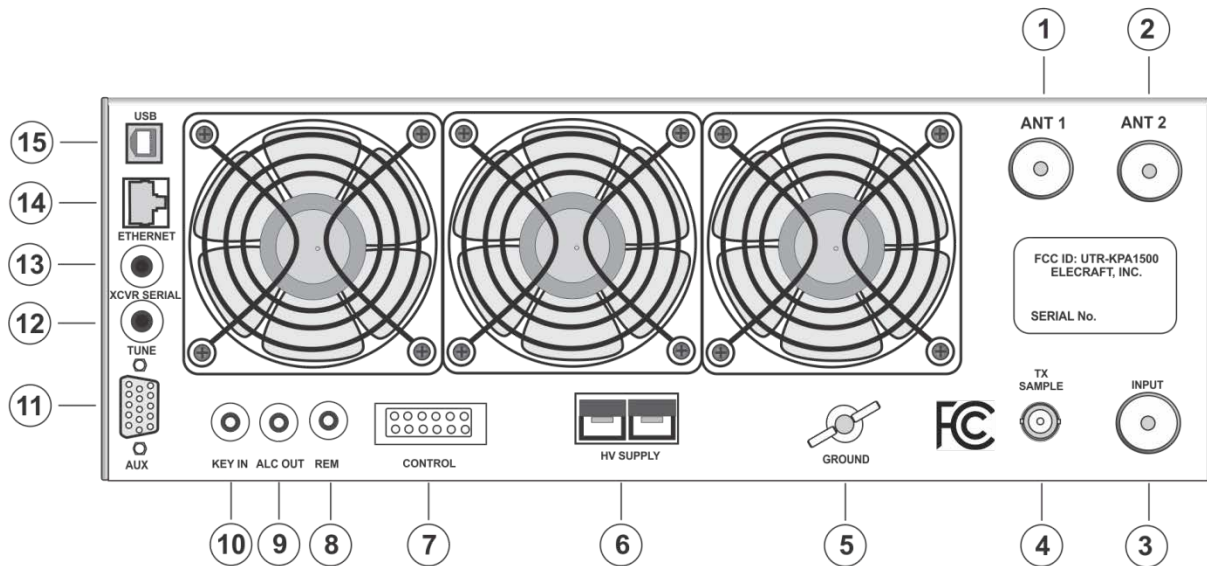
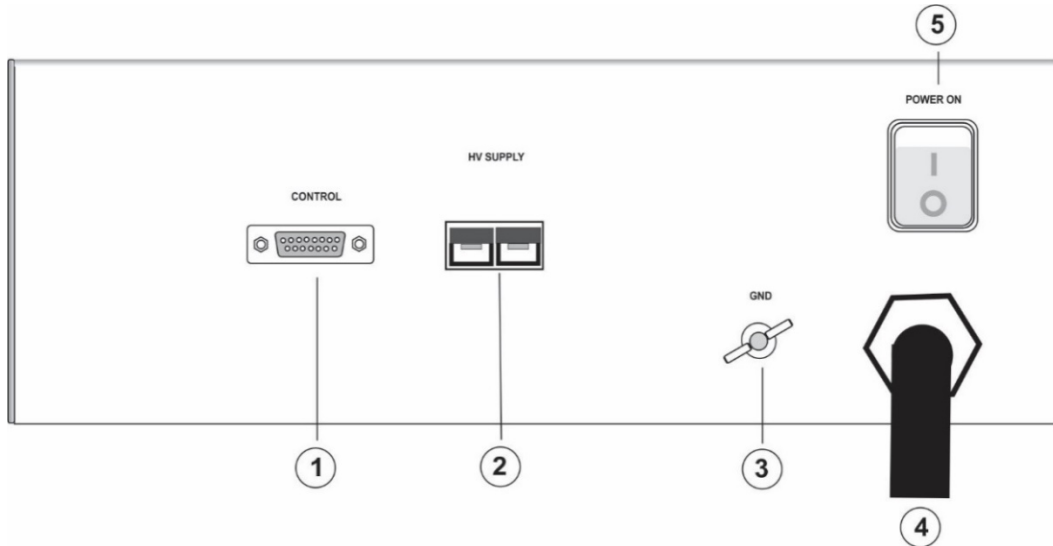

Figure 1. KPA1500 RF Deck Rear Panel.
Figure 2. KPA1500 Power Supply Deck Rear Panel.
The KPA1500 RF Deck rear panel is shown in Figure 1. The connectors and controls are described following the figure.
Connect the Power Supply to the RF Deck with the supplied 66" (167 cm) cable. Plug the Anderson PowerPole® connector into the HV SUPPLY connector ⑥ on the RF Deck rear panel (Figure 1) and the corresponding connector on the Power Supply ②, Figure 2. Observe the polarity; match the colors on the plug with the connectors.